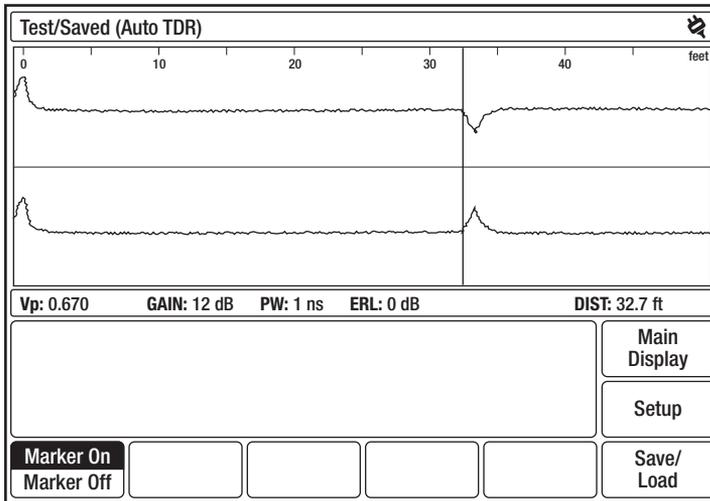

Figure 4-11: Test/Saved (Auto TDR)
5. Press **Return to Test** to display the test and saved waveforms (Figure 4-11).